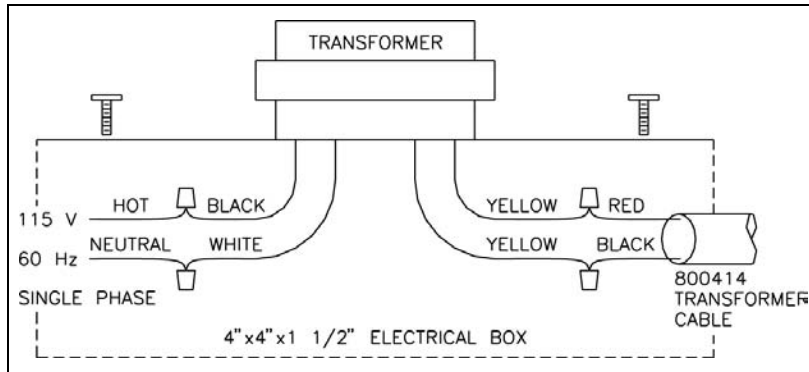

Figure 15: Transformer Installation
3. Refer to Figure 14 wiring diagram for pressure sensor, DIM, TSI Damper/Actuator, and TSI flow station wiring. Refer to Figure 15 wiring diagram for transformer wiring.
3. Connect 115 VAC line voltage: HOT wire to BLACK wire on transformer and NEUTRAL wire to WHITE wire on transformer (Figure 15).